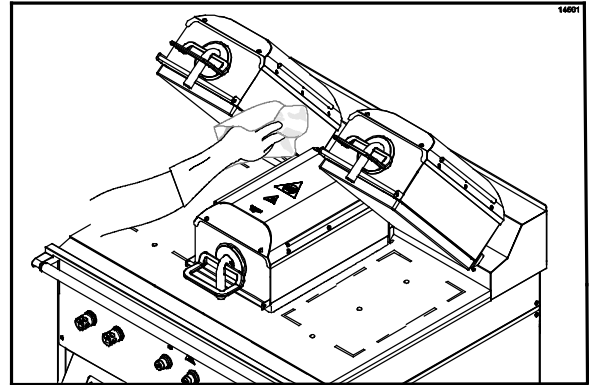

Figure 64
35. Rinse the inner edges of the right and left platens with a clean, sanitizer-soaked grill cloth. (See Figure 64.)